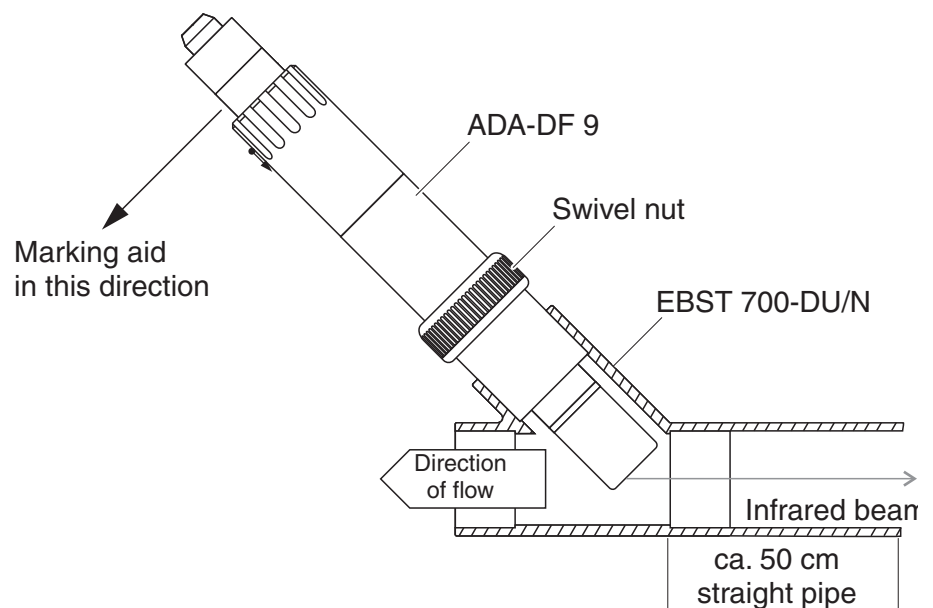

Fig. 3-5 Turbidity sensor in the pipe using EBST 700-DU/N flow-thru adapter
Fig. 3-5 shows the installation using the EBST 700-DU/N flow-thru adapter for installation in a straight pipeline (DN 50). The infrared beam is parallel to the pipeline axis and points in the opposite direction to the direction of flow. The marking on the sensor points towards the pipeline (see Fig. 3-5).
- 3 Install the sensor in the flow-thru adapter with the aid of the ADA-DF 9 adapter (see operating manual of the adapter). To ensure the correct position, loosen the coupling ring on the EBST 700-DU/N somewhat and align the marking aid as shown in Fig. 3-5. Then, tighten the coupling ring.